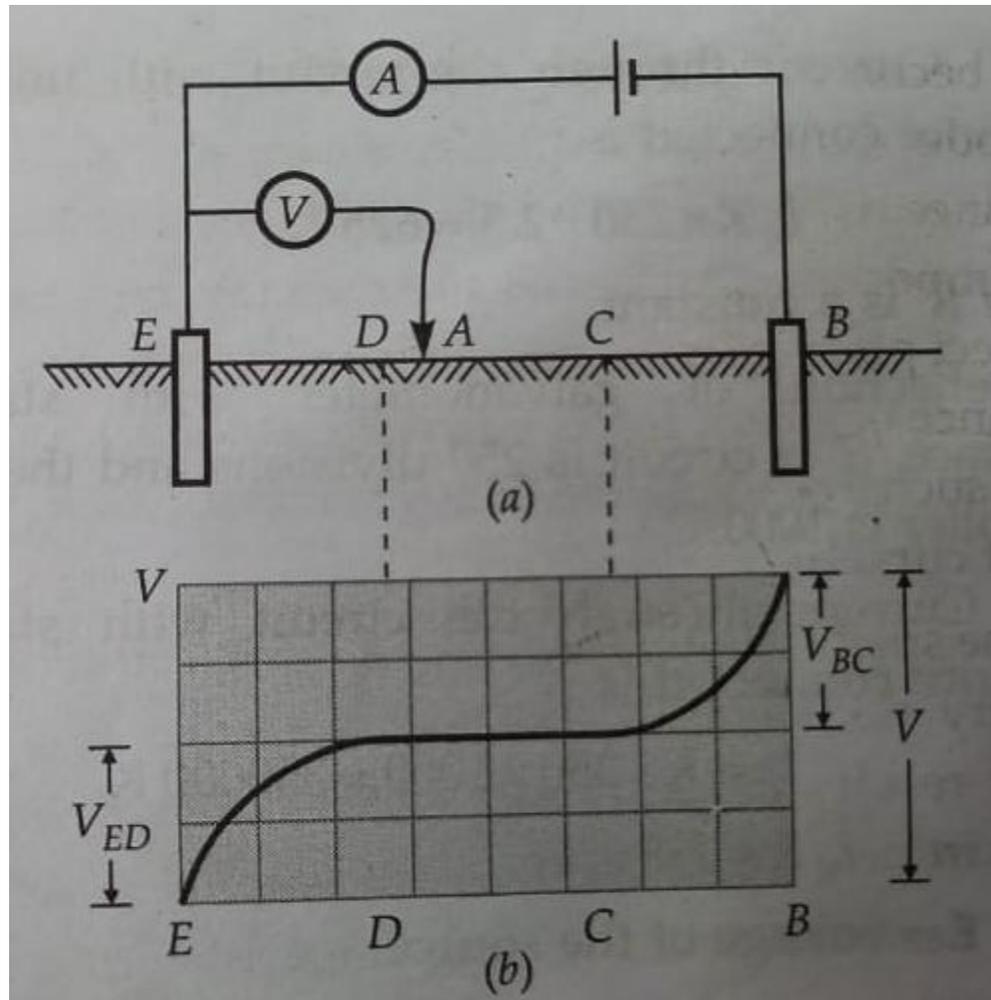

Fig .No. 3 Distribution of potentials between two earthing electrodes
- The potential distribution between the electrodes is shown in Fig. No. 3.
- By observing the curve in Fig. No.3 it is clear that potential rises in the proximity of electrodes E and B and it is constant along the middle section.